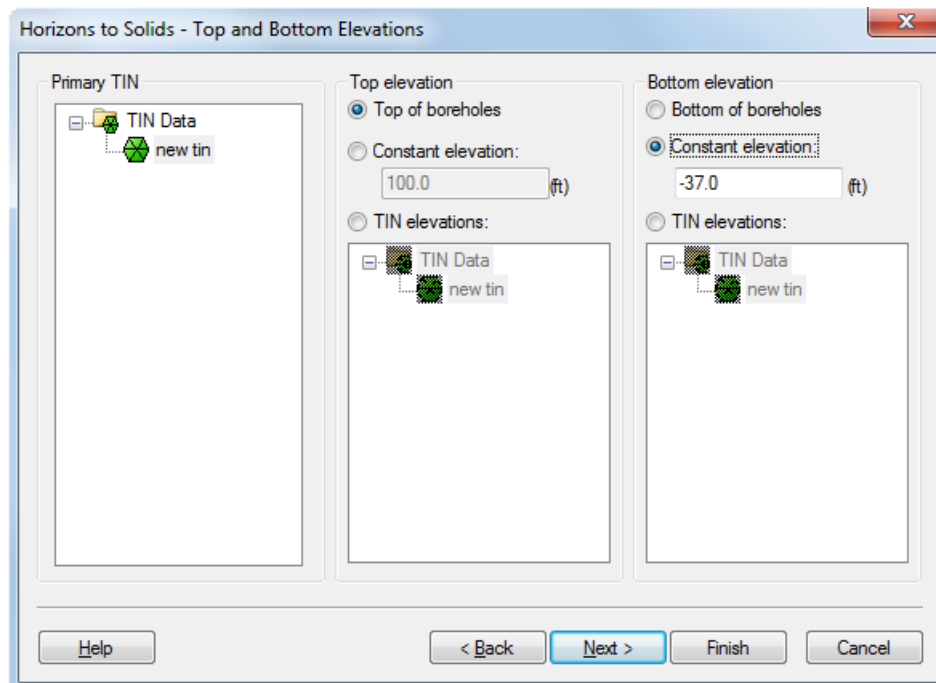

Figure 1. Horizons to Solids wizard, step 2.
4. In the second step, set the dialog options as shown in Figure 1 below and click *Finish*.